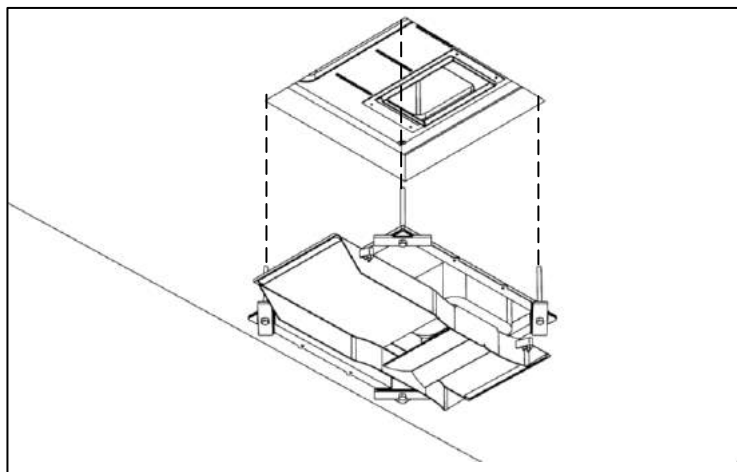

Fig 11: Raise the duct assembly up to the roof hole, ensuring the paper extension duct work forms a tight fit around the spigot underneath the unit.
- Turn the assembly over and add the extension duct to the top of the assembly (Fig 11).
- Raise the brace assembly and slip the extension duct over the outside diameter of the spigot underneath the rooftop unit. (Fig 11 & 12).